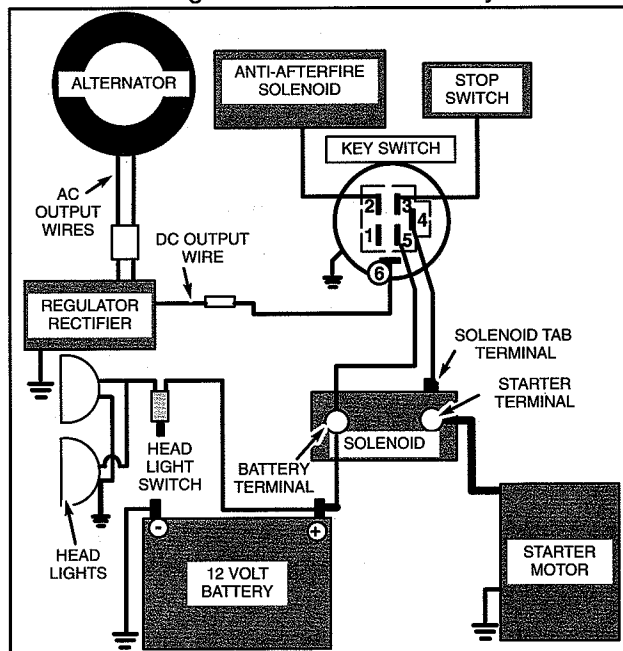

Fig. 29 – Typical 12 V Wiring Diagram
1. Before installing battery, connect all equipment to be operated. Fig. 29.